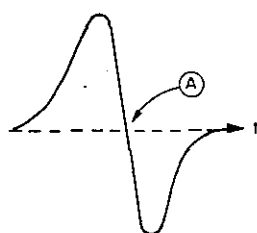

Fig. 3 S-curve
The focus servo is activated at the operating point of (A) as shown in Fig. 3. Generally, a logical product (AND) with the Focus-OK signal is used to switch on the focus servo in focus searching and to prevent a malfunction while passing the (A) point in Fig. 3.